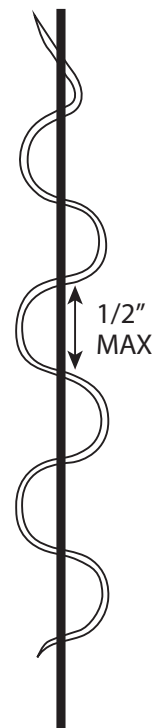

FIG. 7
- Step 6:** Weave wire through material as shown in figure 7 approx. 1/4" from edge.